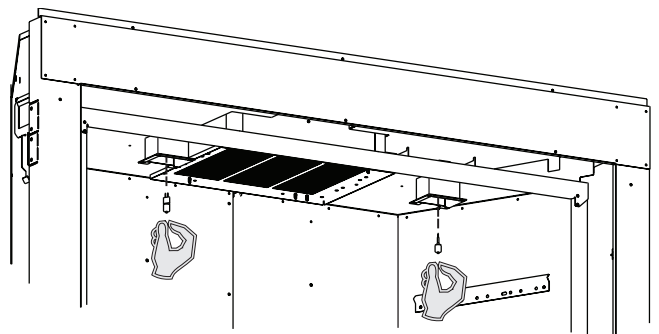

Figure 78
2. Remove old light bulb and replace with a new one. **See Figure 78.**